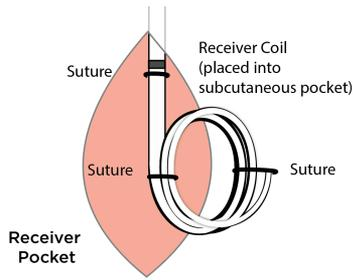

Figure 12
4. Using non-absorbable suture, tie a square knot around the coil and into the fascia at two locations and at the marker band. Tuck the proximal tail into the suture loop to avoid any protruding edges (see Figure 12).